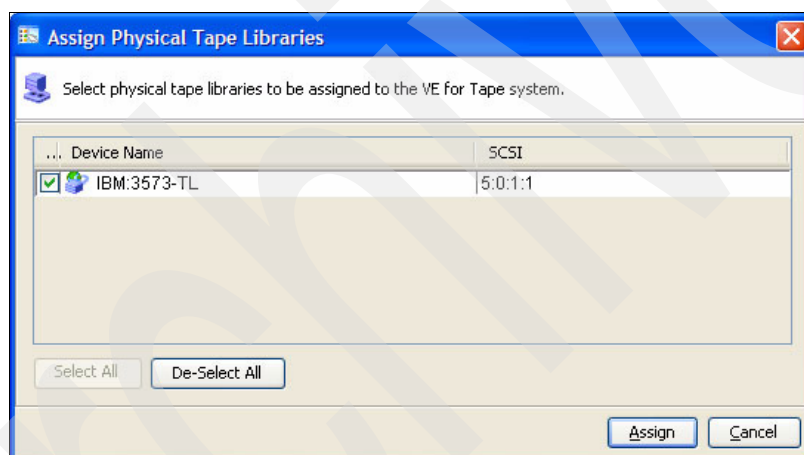
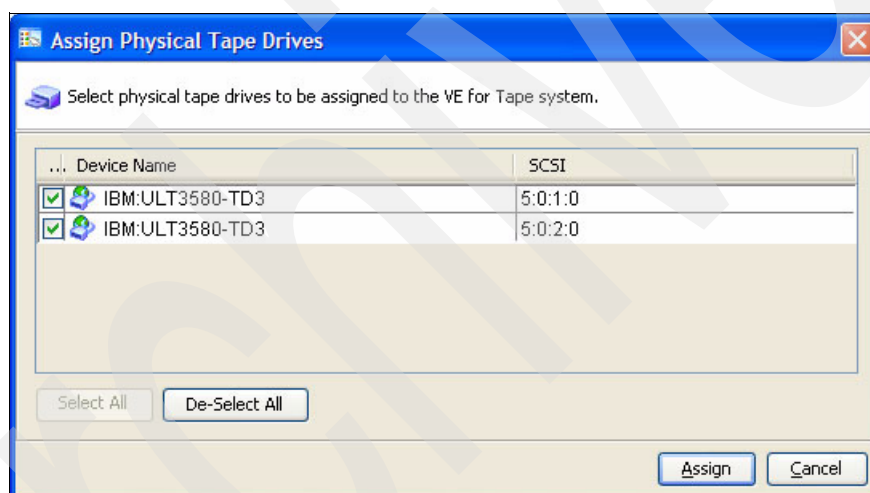

Figure 6-67 Discover new devices: Select the library to assign
Figure 6-70 Discover new devices: Select tape drives
6. We referred to 6.6.1, "Library name cross reference" on page 205, to double-check that the SCSI string for a TS3200 is 3573-TL. From the panel shown in Figure 6-67, select **IBM3573-TL**, then click **Assign**.
9. As shown in Figure 6-70, select both LTO3 drives, then click **Assign**.
Tip: If you are attaching multiple physical libraries of the same type or that contain the same type of tape drive, the library and drive selection panels only provide SCSI IDs for identification (see Figure 6-67 on page 225 and Figure 6-70 on page 226).